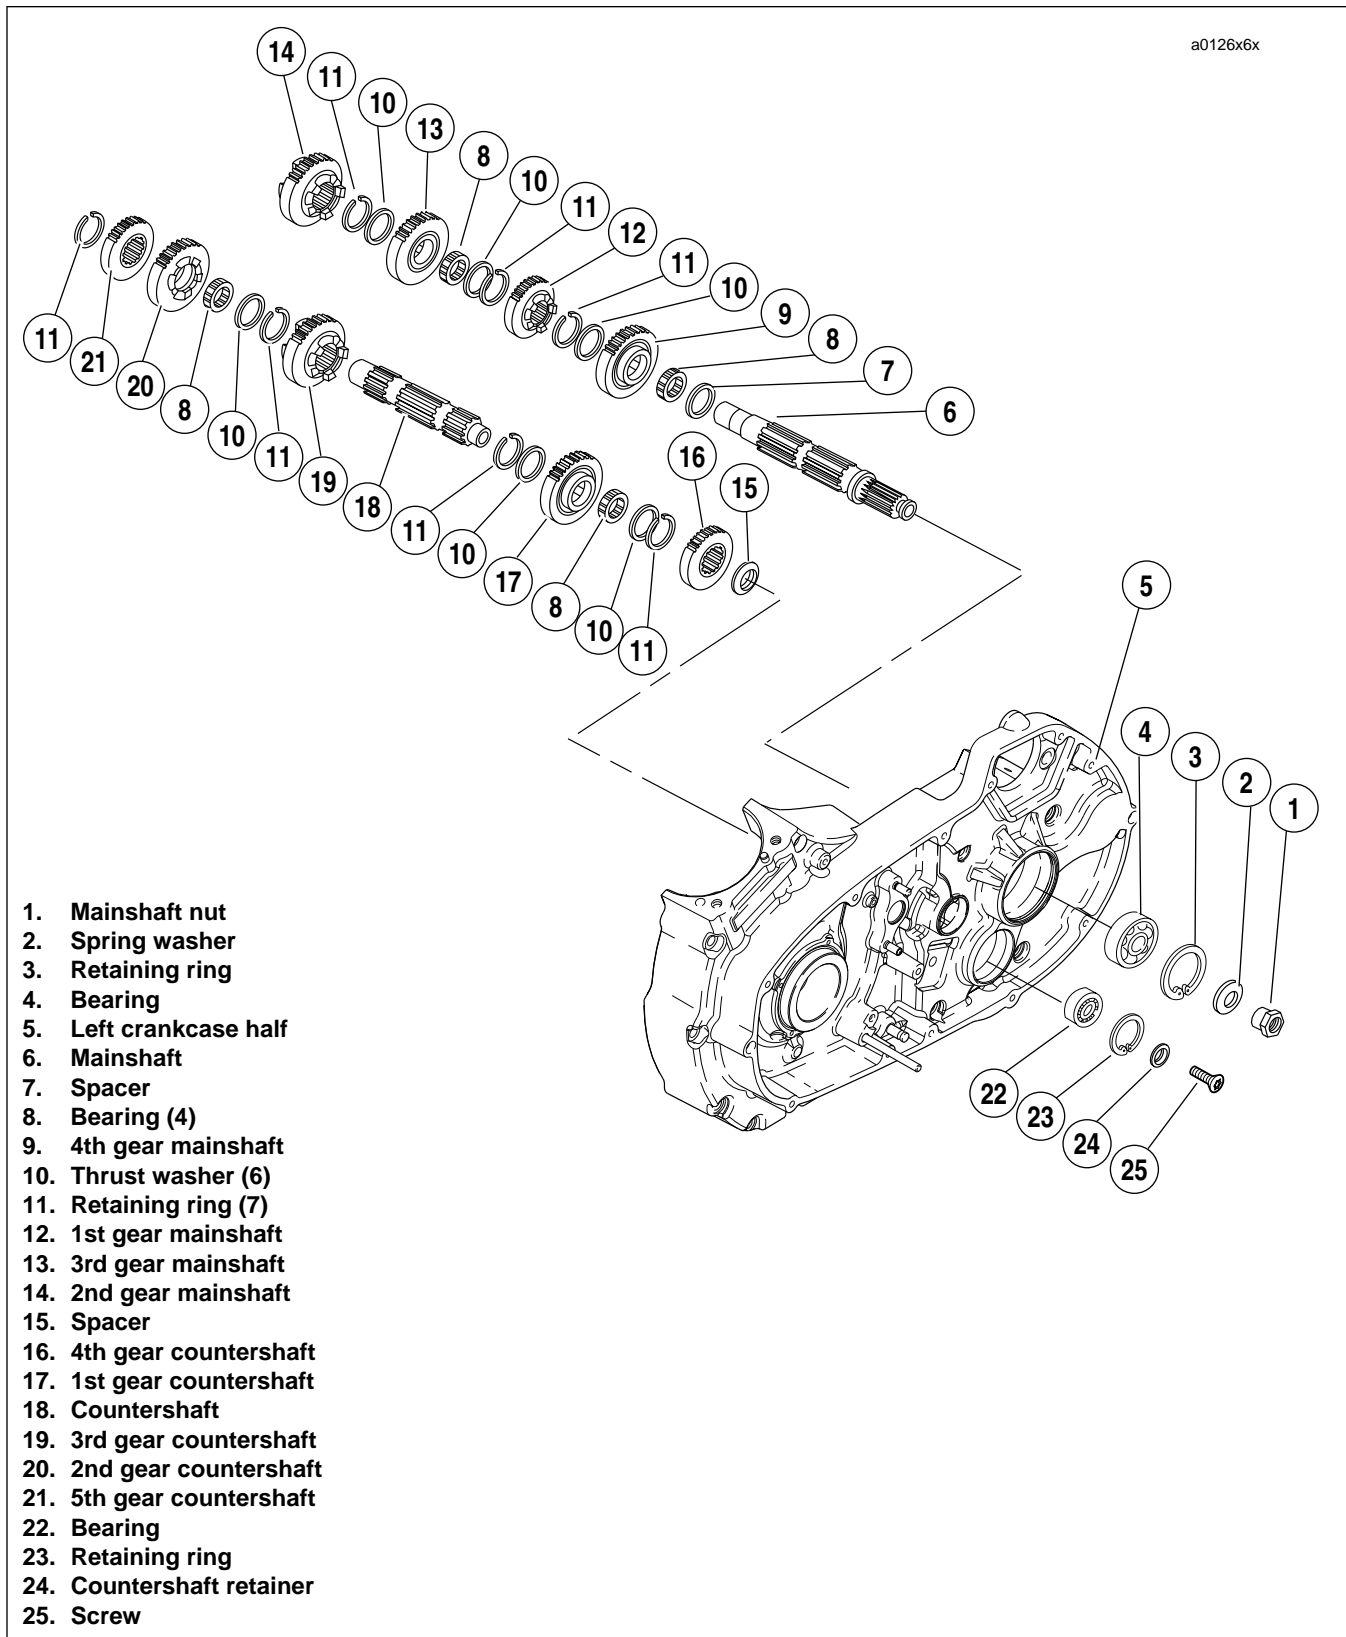

Figure 6-34. Transmission Assembly Left Crankcase Half
*During assembly, the split bearings (8) and the internal bores of the gears must be lubricated with FORMULA+ Primary/Transmission Lubricant prior to assembly. Leaving these parts dry could accelerate wear at start-up.*
1. See Figure 6-34. Install **new** retaining ring (11) and thrust washer (10) onto mainshaft (6) in the first ring groove from the end.
2. Install split bearing (8) onto mainshaft.
3. Locate mainshaft 4th gear (9), which can be identified by the two radial grooves at one side. Slide gear (9) onto shaft. Position gear over bearing (8) next to spacer (7).
4. Place spacer (7) over mainshaft and position next to split bearing (8).
5. Slide mainshaft 1st gear (12) onto mainshaft with the fork groove facing 4th gear (9).
6. Install thrust washer (10) and **new** retaining ring (11) next to mainshaft 1st gear (12).
1. See Figure 6-34. Install **new** retaining ring (11) and thrust washer (10) onto countershaft (18) in the second ring groove from the end.
2. Install split bearing (8) onto countershaft.
3. Locate countershaft 1st gear (17), which can be identified by the two radial grooves at one side. Slide gear (17) onto shaft. Position gear over bearing (8).
4. Install thrust washer (10) and **new** retaining ring (11) next to gear (17).
5. Locate countershaft 4th gear (16). This flat, shoulderless gear is splined and has a single radial groove at one side. Position gear next to retaining ring (11) on countershaft. Place beveled washer (spacer) (15) over end of shaft with beveled side away from countershaft 4th gear (16).
6. Install countershaft 3rd gear (19) on countershaft with fork groove facing away from countershaft 1st gear (17).
7. Install **new** retaining ring (11) on countershaft. Position **new** retaining ring in the second ring groove from the end. Install thrust washer (10) next to retaining ring (11). Install split bearing (8) in seat next to washer (10).